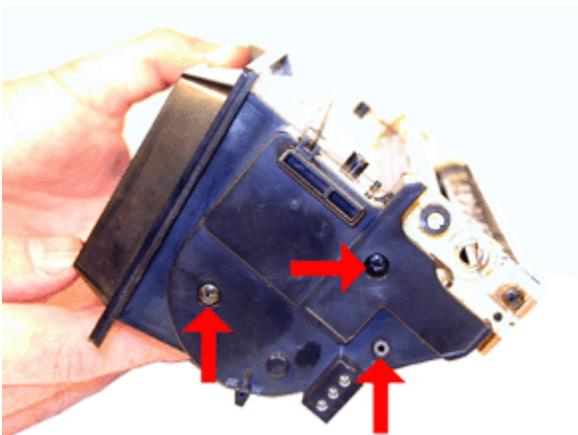

FIGURE 25
25. Remove the two screws and plastic bushing from the right side end cap. See Figure 25